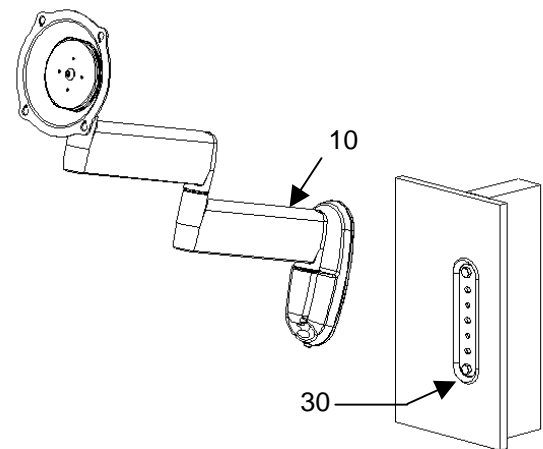

Figure 5. Attach Mount to Wall Bracket
1. Align top of mount (10) with top of wall bracket (30). Push bottom of mount against bottom of wall bracket until mount fits snugly in place (see Figure 5).